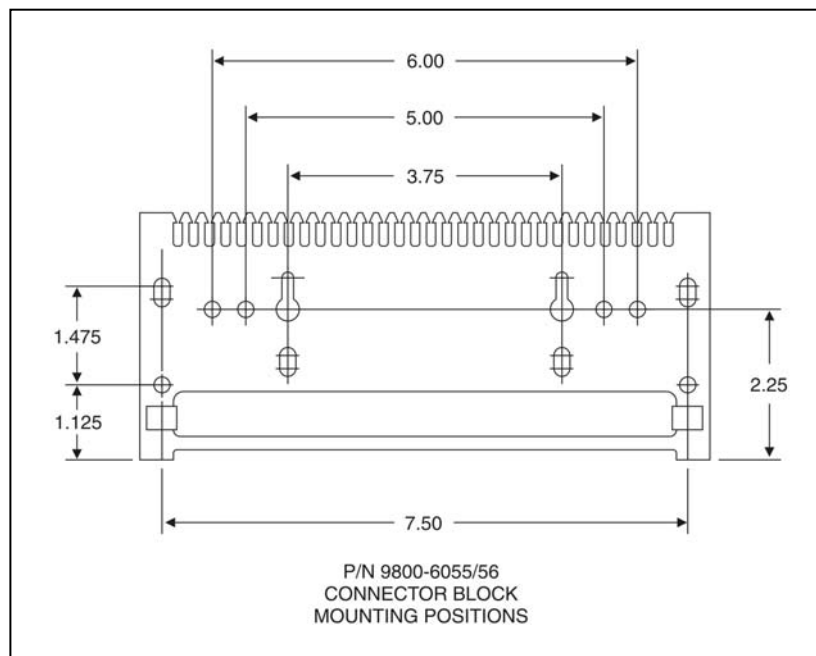

FIGURE 4-5: CONNECTOR BLOCK MOUNTING POSITIONS
2. Arrange to obtain a suitable mounting bracket for the connector blocks. System Studies supplies a mounting bar for this purpose (P/N 9800-6090), intended for use with the P/N 9800-6055 dedicated connector block. The connector block is equipped with a variety of slots for easy installation (FIGURE 4-5).